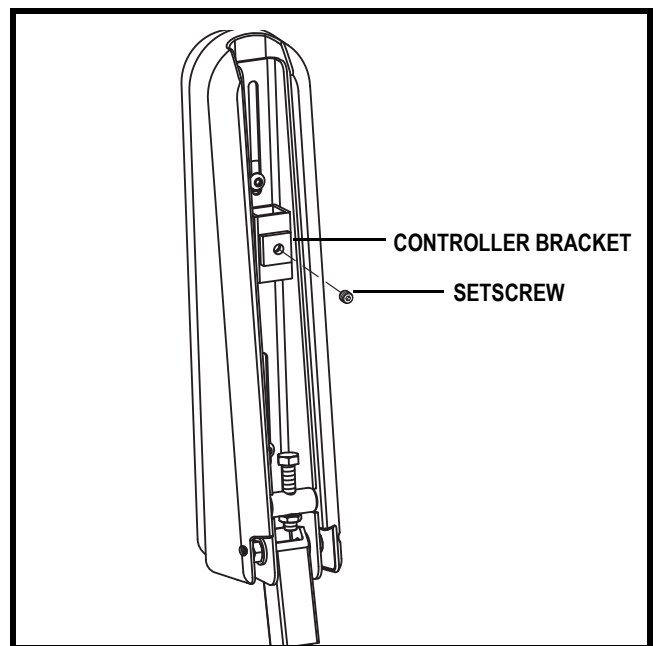

Figure 18. Controller Adjustment
2. Loosen the setscrew on the controller bracket. See figure 18.